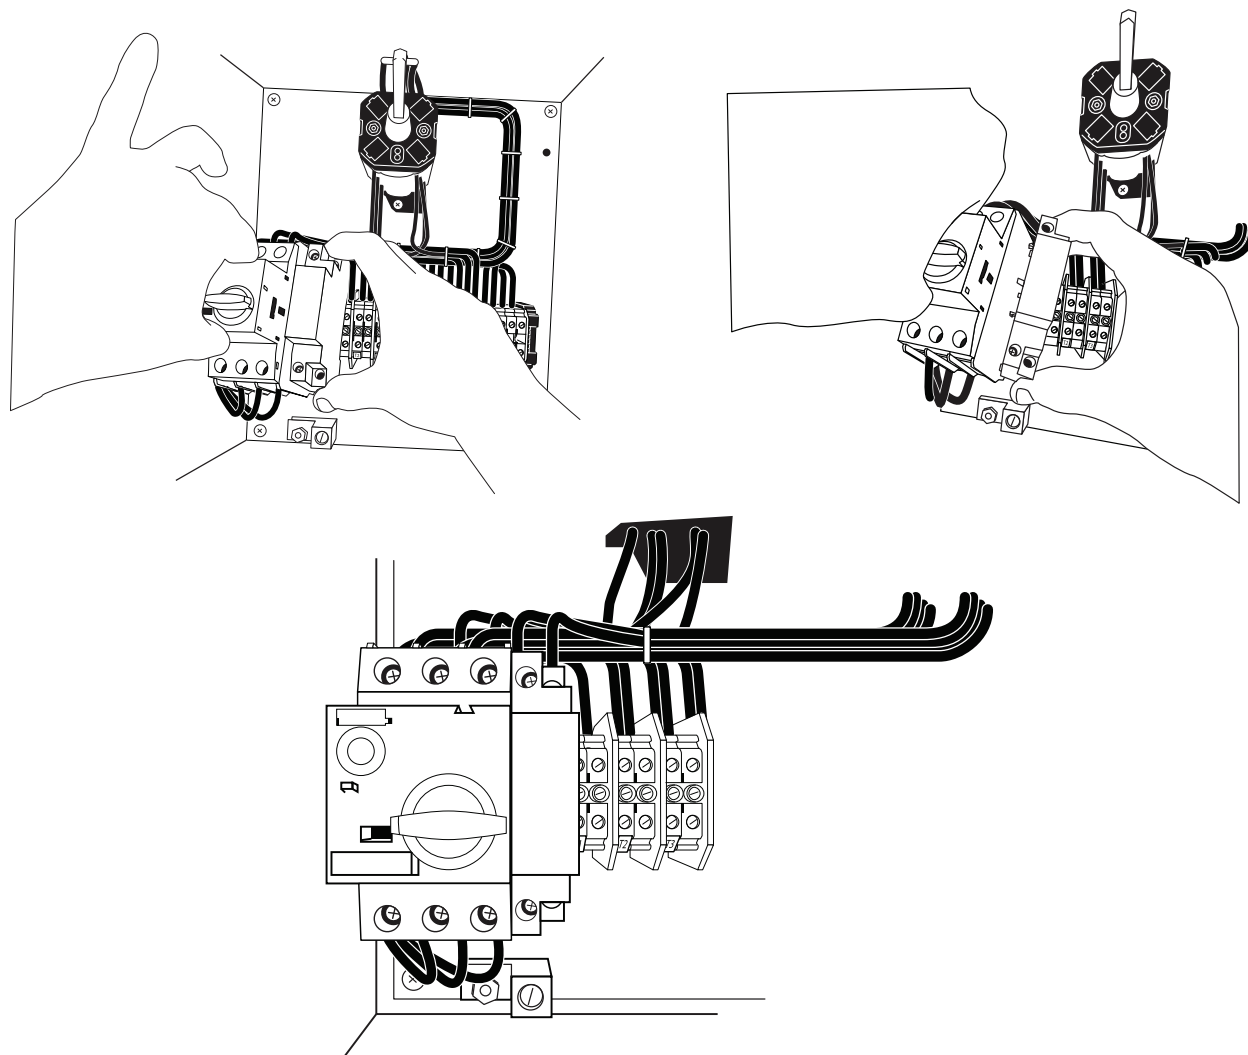

Fig. 129 — Connecting Shunt Trip Device to MMS
4. Install the shunt trip into the MMS as shown in Fig. 129.